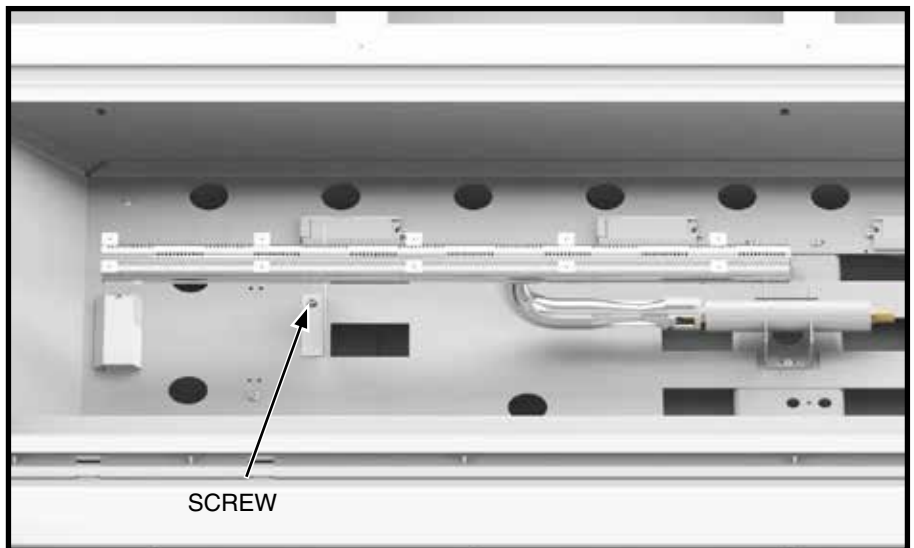

Figure 74: Installing first of two burners.
5. Place the first burner as shown in Figure 74. Be sure to engage the venturi fully onto the orifice. Secure with single screw in burner support leg. Repeat with other burner.